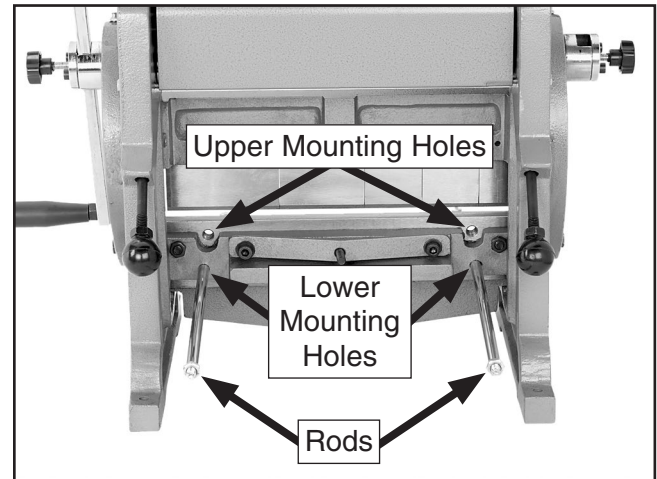

Figure 9. Work stop rods mounted in the lower holes for use with the shear.
3. Thread the rods into either the upper or lower mounting holes, as shown in **Figure 9**. Only hand-tighten the rods—over-tightening will make it difficult to remove them.